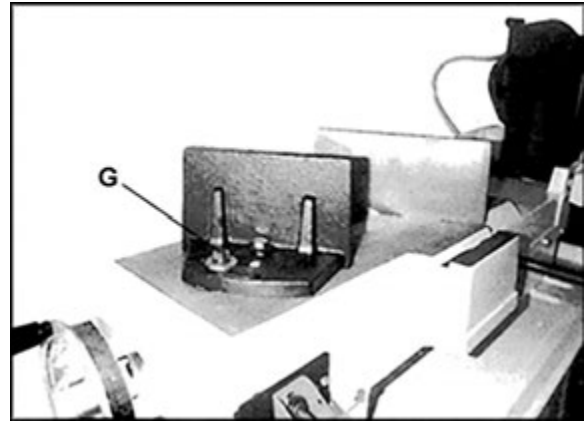

Figure 8-15: Vise Positioning
- 4) Adjust floating vise parallel to fixed vise by loosening bolt (G, Figure 8-15), adjusting to parallel, and tightening bolt.